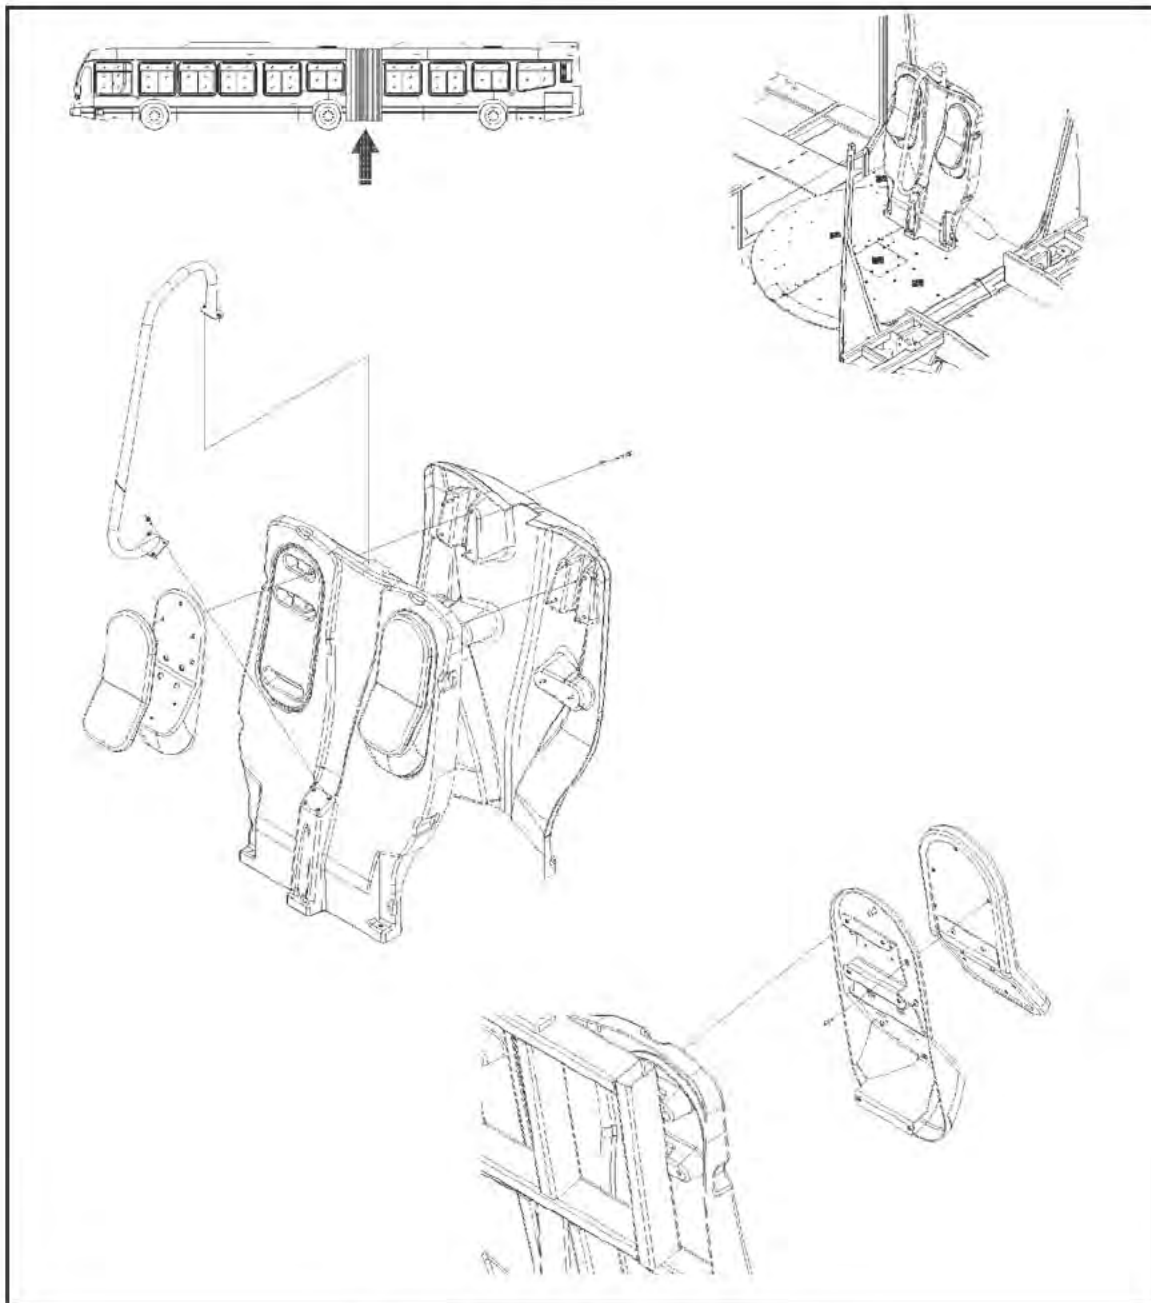

Figure 1 - Front and Rear Bum Rest Views
- 1.1. Remove the front and the rear bum rest shells. Retain the removed parts. See Figure 1.